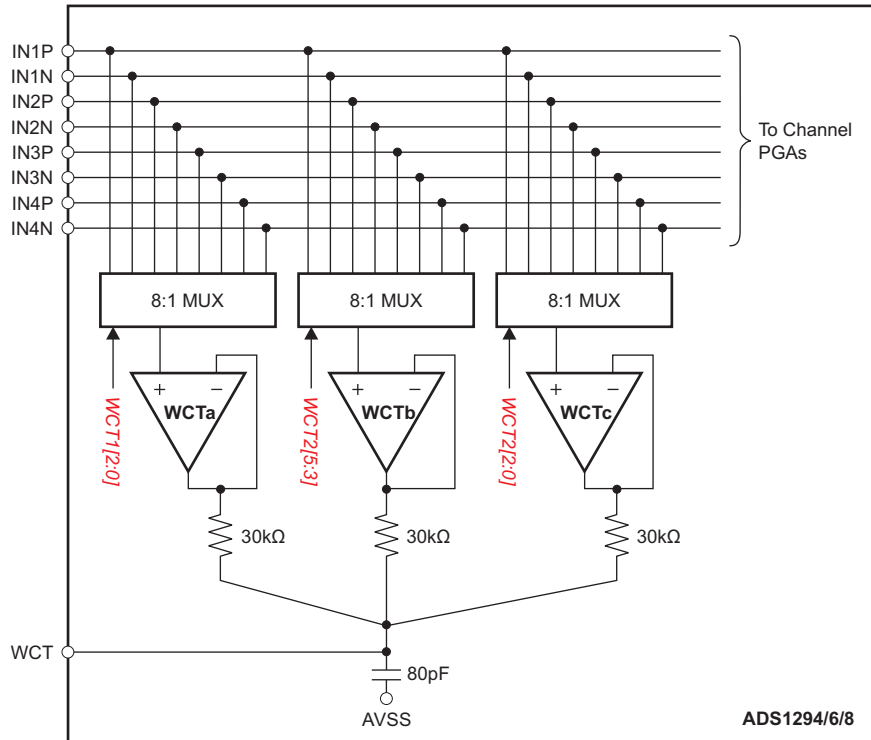

Figure 35. WCT Voltage
In the standard 12-lead ECG, WCT voltage is defined as the average of right arm (RA), left arm (LA), and left leg (LL) electrodes. This voltage is used as the reference voltage for the measurement of the chest leads. The ADS129x has three integrated low-noise amplifiers that generate the WCT voltage. Figure 35 shows the block diagram of the implementation.